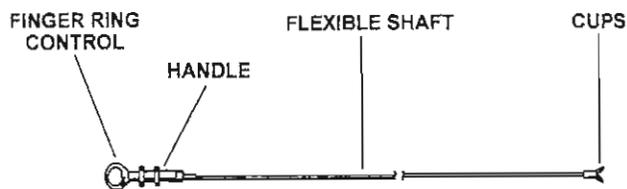

Figure 1-3. Biopsy forceps.
(2) *Biopsy forceps (fig 1-3)*. The biopsy forceps are flexible to acquire biopsy specimens with minimal bleeding. The action of the biopsy forceps is manipulated with the finger ring control and handle.